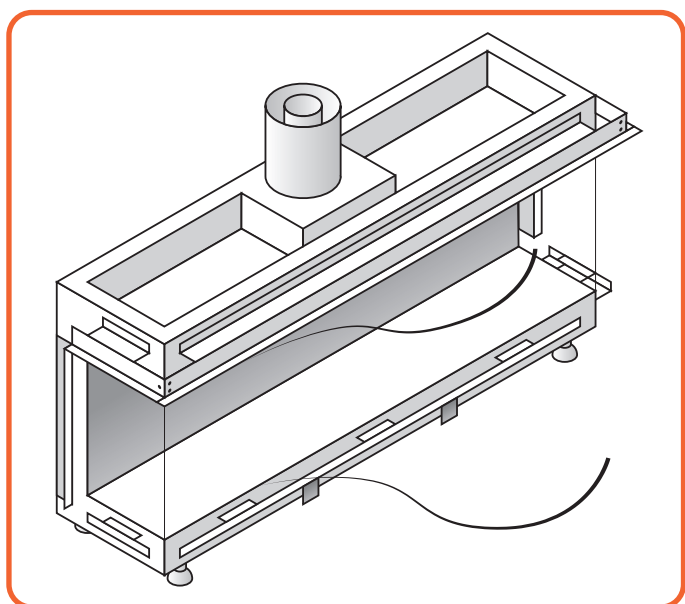

Figure 11.4 | Removing Glass Cords
- Remove the glass cords. (See Figure 11.4)